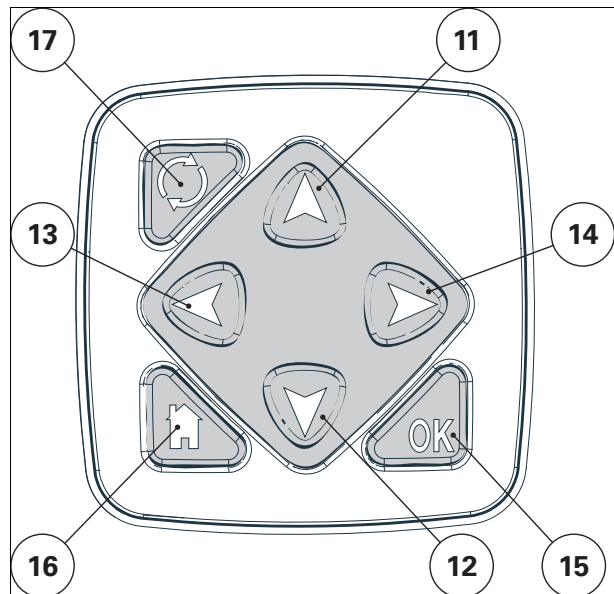

Fig. 9.
These parameters can be selected by pressing button (17) on the right-hand side of the steering wheel fig. 9